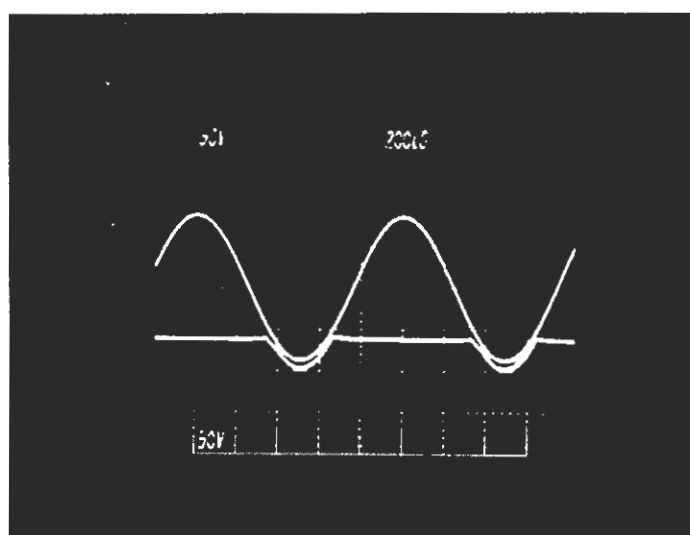

FIG 4
- Figure 4 -125V commutator @ full power @ 1 kHz into 8Ω .